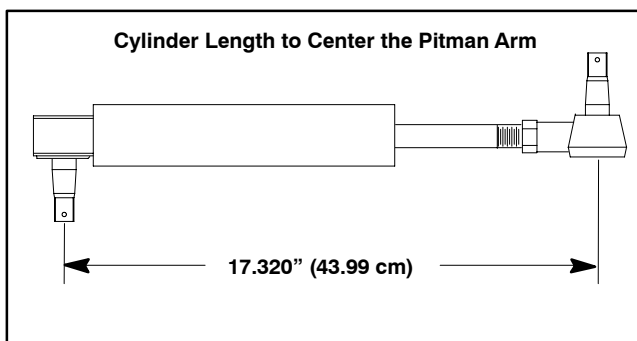

Figure 18
2. With steering cylinder mounted in vehicle, rotate steering wheel to extend steering cylinder to a length of 17.320" (43.99 cm) between the centers of the cylinder ball joints (Fig. 18). This steering cylinder length will center the Pitman arm with the vehicle to ensure correct front wheel alignment measurement.